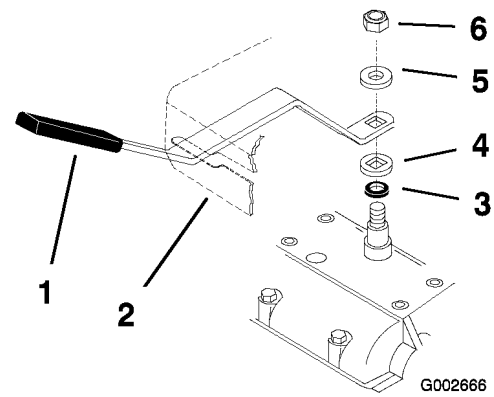

Figure 9
- Shift lever to second gear and check alignment of lever in slot of shift lever plate. The clearance between top and bottom of the shift lever should be equal (Figure 9).
- If clearance is not correct, remove lever and bend it slightly to adjust (Figure 9).
- Shift lever to neutral and check alignment of lever in slot of shift lever plate. The clearance on the sides of shift lever should be equal (Figure 9).